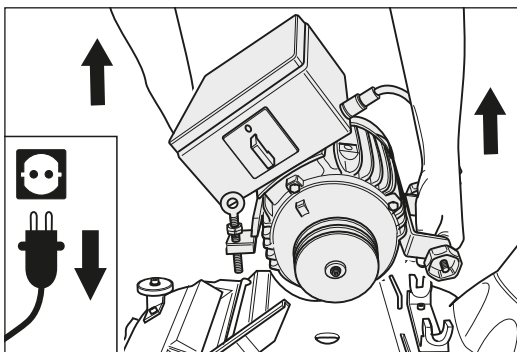

Fig. 55 Remove the motor from the machine housing.
- 9 Remove the motor from the machine housing (fig. 55) and secure it during transport against slipping and damage!